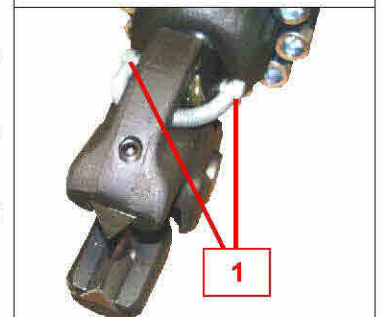

Fig. 7
2. Loosen the lateral screws (1) in fig. 7 securing the spring of the upper head;
- Remove the two lateral screws securing the spring of the upper head to access the cam (fig.7).